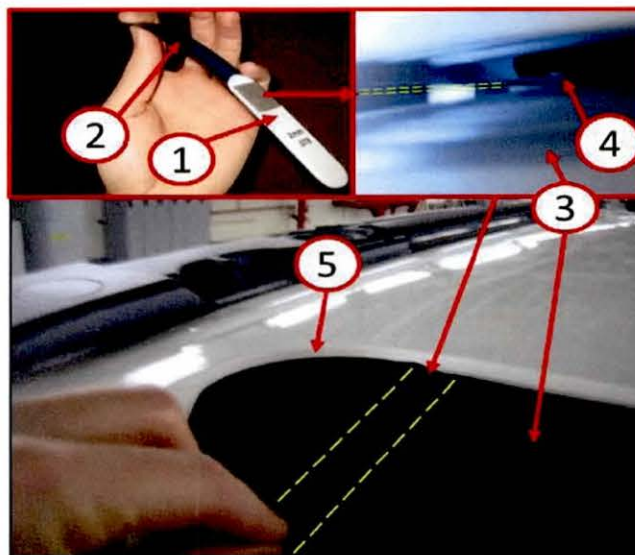

Fig. 2 Inspect
Cycle the sunroof panel to the full open position and use a 2mm feeler gage (1) to check left and right sunroof glass (3) to inner sheet metal reinforcement (4) gap. Use a flashlight to locate the lowest point between the sheet metal reinforcement (4) and sunroof glass (3) (Fig. 2).